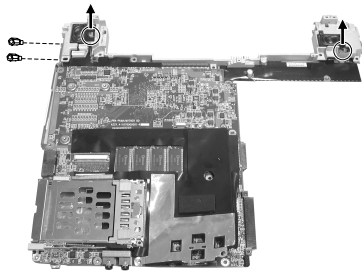

Figure 2-36 Remove two hex nuts
5. Remove two hex nuts and disconnect two speaker's cords from system board. (Figure 2-36)